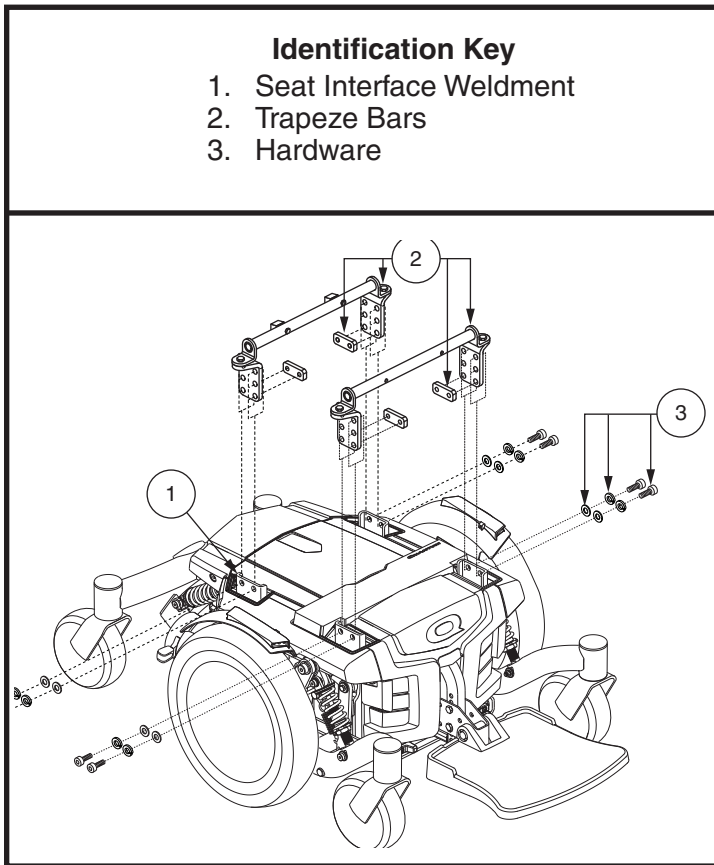

Figure 13. Seat Height/Angle Adjustment
7. Remove the hardware that attaches the trapeze bars to the seat interference weldments. **See figure 13.**